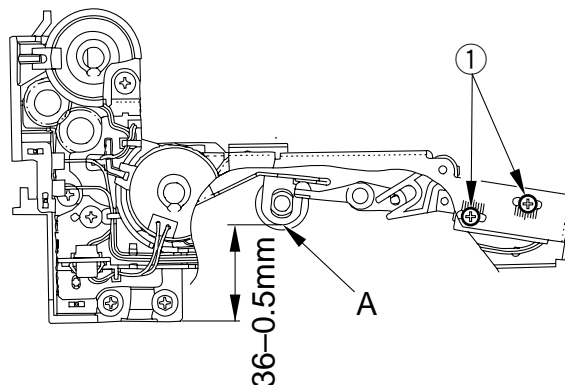

Figure 5-845
Turn the two screws ① to adjust the solenoid so that the distance from the bottom of the pick-up assembly and section A of the roller arm is 36 ± 0.5 mm as indicated in Figure 5-845.